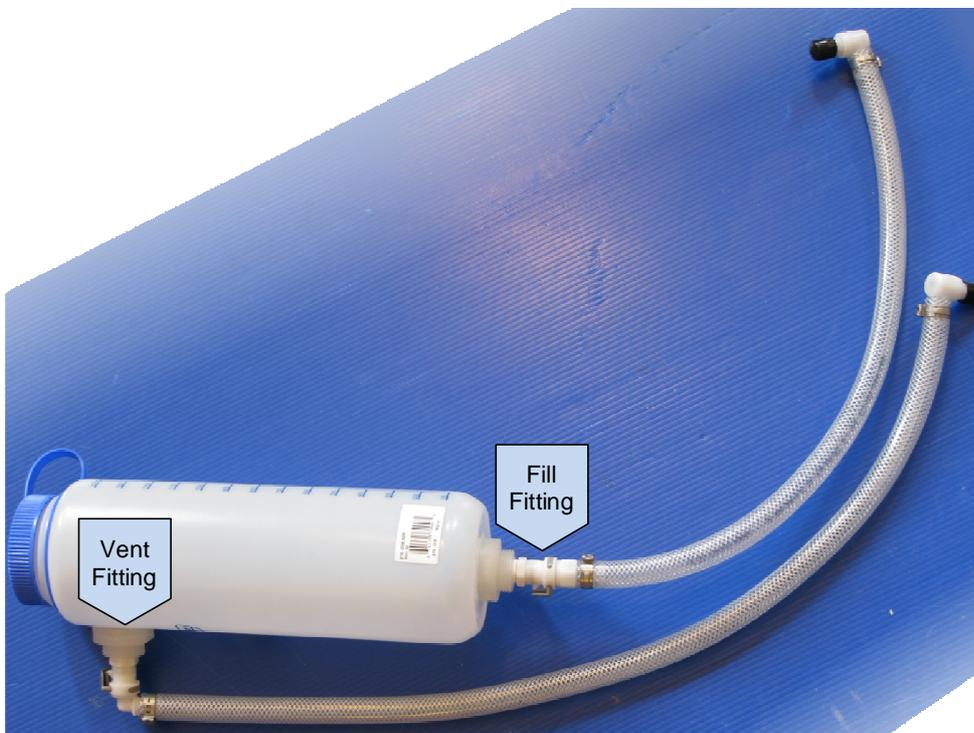

Figure 13: Filling Bottle
- Fill in the fill bottle (Accessory kit) with coolant (see **Figure 13**).